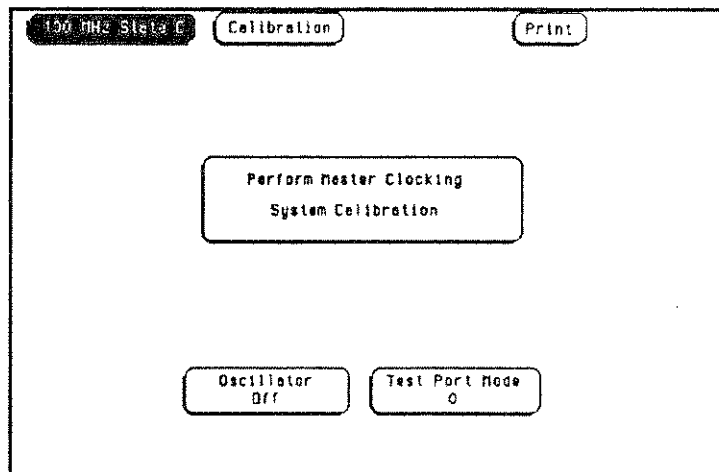

Figure B-7. Master Clocking Calibration
3. Remove the connector plug located in the stimulus ports on the master card. Touch **Perform Master Clocking System Calibration** in the 100 MHz State Calibration menu, see figure B-7.